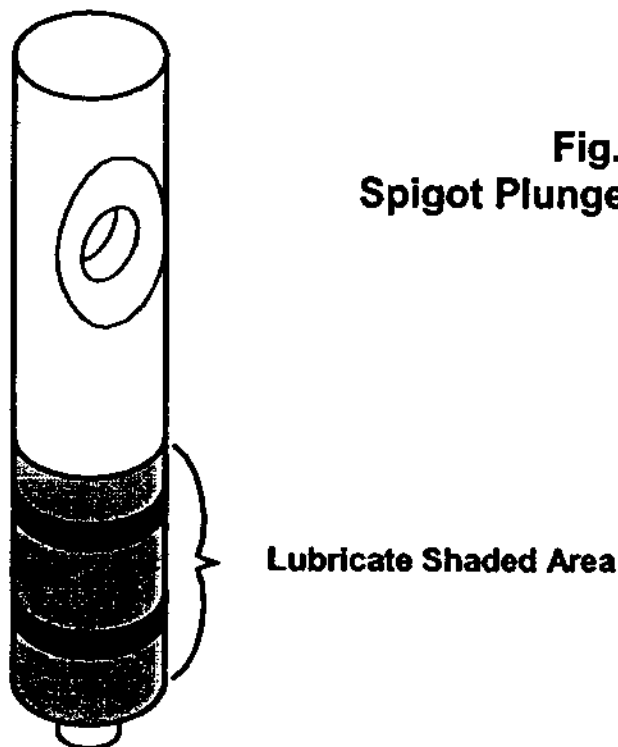

Fig. 32
- a. Install the two o-rings on the spigot plunger by rolling them onto the plunger. Seat the o-rings in the grooves. Be certain that they are not twisted. Smooth the lubricant into the grooves and over the sides of the plunger assembly (Fig. 32).